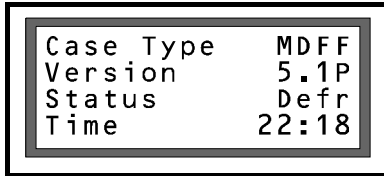

Figure 15- Main Screen
2. Press the **F1** key to ensure that the main screen is displayed (**Figure 15**).
2. Press the **F1** key to ensure that the main screen is displayed (*Figure 15*).